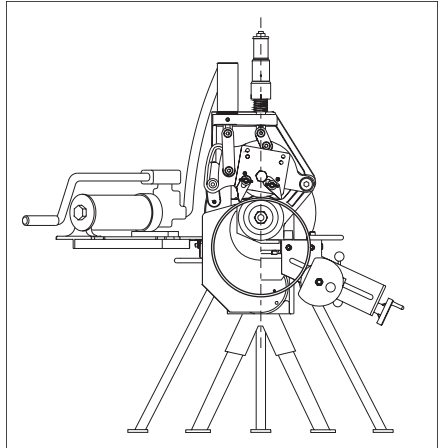

Figure 3 - "CORRECT"
7. Using the hand wheel, advance the stabilizer roller inward until the roller lightly contacts the pipe. Tighten the stabilizer locking handle. Refer to Figures 3 and 4 on this page for proper positioning.